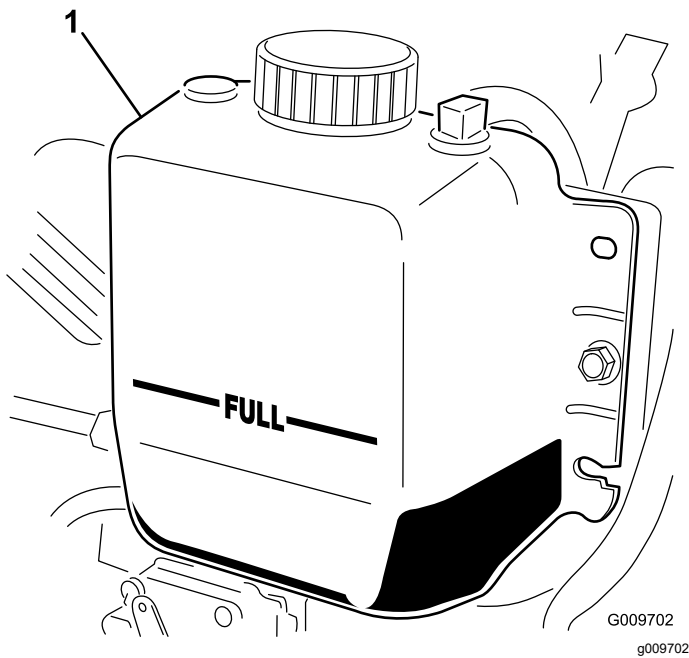

Figure 72
3. Check the coolant level in the radiator. The radiator should be filled to the top of the filler neck and the expansion tank filled to the FULL mark (Figure 72).